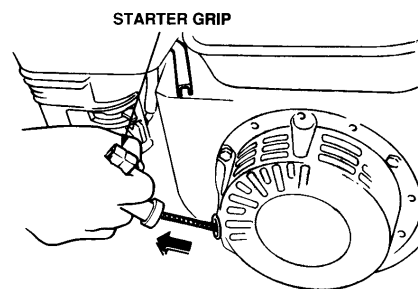

Figure 16. Starter Grip
5. If your generator is a recoil start only (no battery), grasp the starter grip (Figure 16) and slowly pull it out. The resistance becomes the hardest at a certain position, corresponding to the compression point. Pull the starter grip briskly and smoothly for starting.